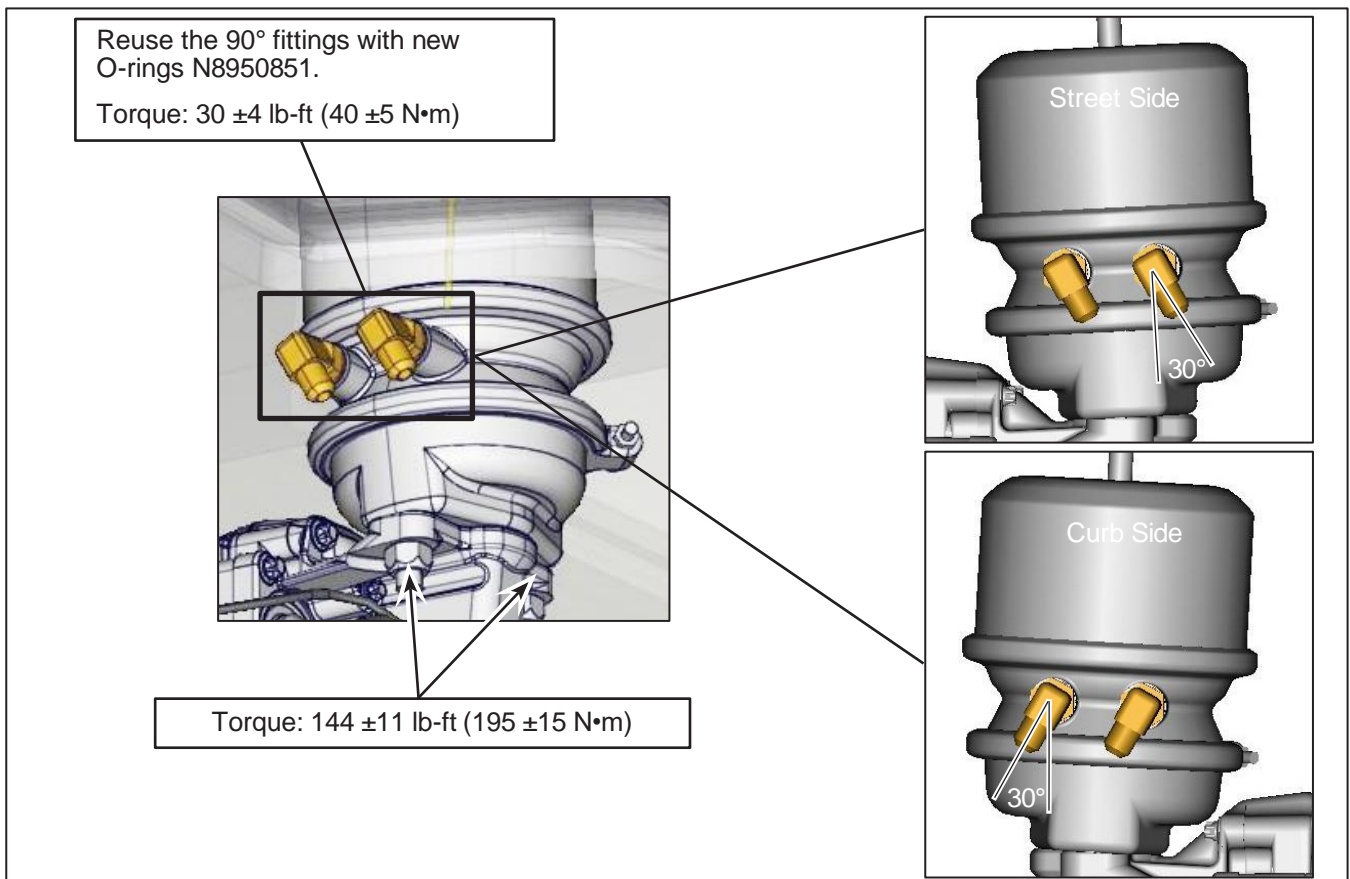

Figure 5 - Brake Chambers and 90° Fittings Installation
- 2.10. Install the new brake chamber in place with the new nuts provided in the kit and tighten to 144 ± 11 lb-ft (195 ± 15 N•m) (Figure 5). Apply torque seal. **Note: do not use impact tools, only hand tools.**
- 2.13. Install the two 90° fittings on the new brake chamber, respecting the angle of the original installation and tighten to 30 ± 4 lb-ft (40 ± 5 N•m) (Figure 5). Apply torque seal.